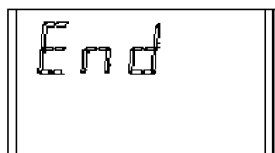

Figure 2-6
- Once the gas value is stable, the alternating display stops. If the calibration is successful, the display will show END for approximately two seconds. (FIGURE 2-6).